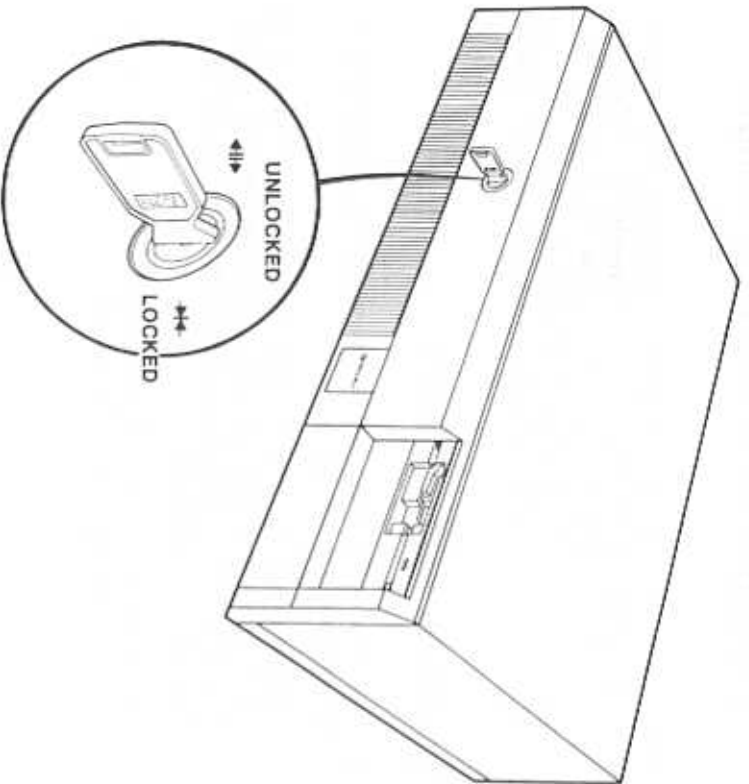

Figure 3-1. System Unit Lock
2. Insert one key in the system unit lock. Make sure the key is in the unlocked position (Figure 3-1).
1. Make sure the system unit lock is in the unlocked position (Figure 3-1).